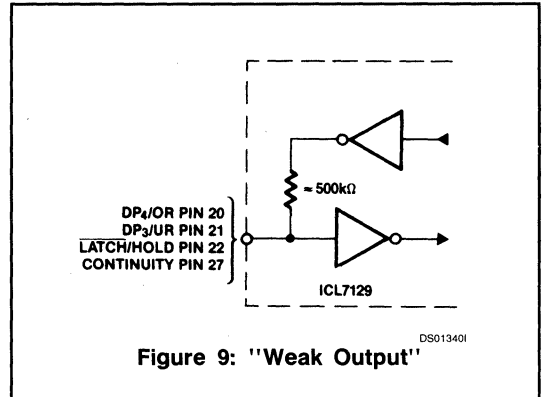

Figure 9: "Weak Output"
Four pins of the ICL7129 can be used as either inputs or outputs. The specific pin numbers and functions are described in the Pin Description table (Table 1). If the output function of the pin is not desired in an application it can easily be overridden by connecting the pin to V+ (HI) or DGND (LO). This connection will not damage the device because the output impedance of these pins is quite high. A simplified schematic of these input/output pins is shown in Figure 9. Since there is approximately 500kΩ in series with